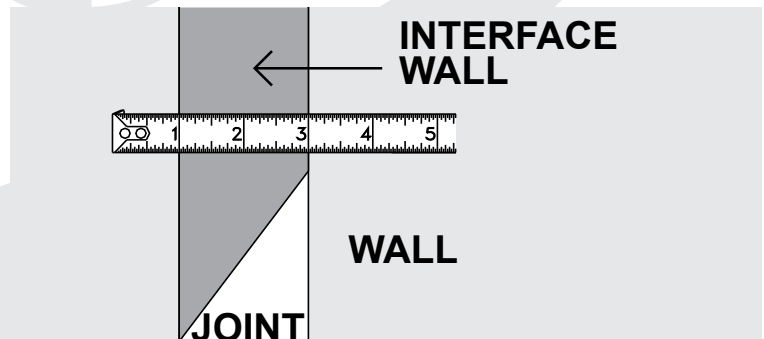

Figure 2—Measuring the Joint Size
6. Measure the joint opening and verify that you have the correct size for the joint (Figure 2).